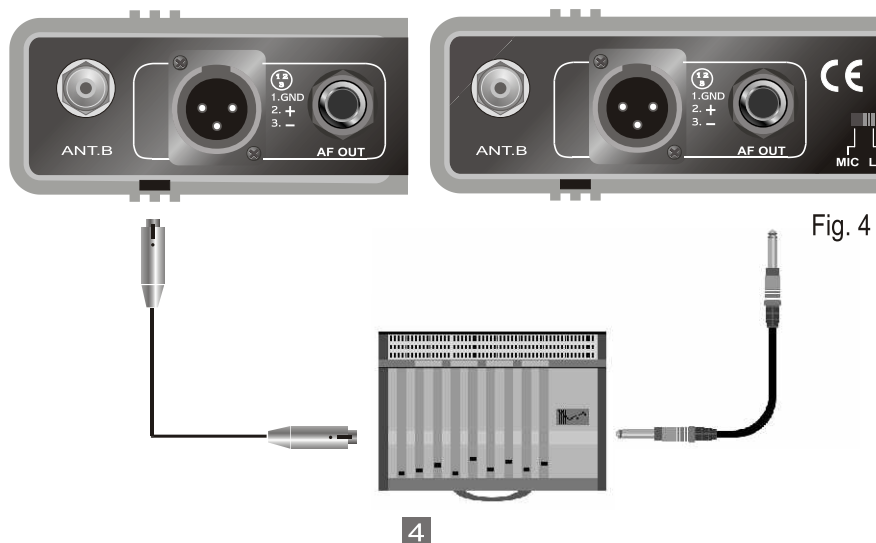

Fig. 4
3.2. Connect either the AF output of the receiver from balanced output to balanced "MIC IN" jack of the mixer / amplifier, or from unbalanced output to "LINE IN" jack of the mixer / amplifier, as shown in fig. 4 .